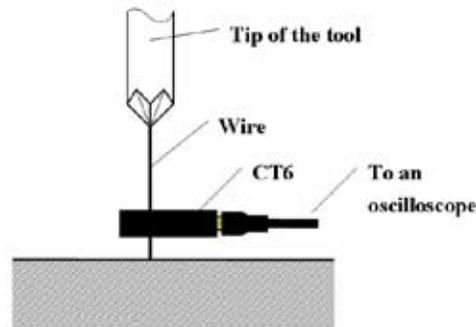

Figure 2. Current Measurement Setup in the Tool
- The most sensitive parts in the process can be damaged by this voltage. Figure 2 shows the current observed during test shown in Figure 1. 180mA current may be quite sufficient for some electronics devices in process of assembly to be damaged, either immediately, or be weakened enough to fail in the field soon (latent damage)